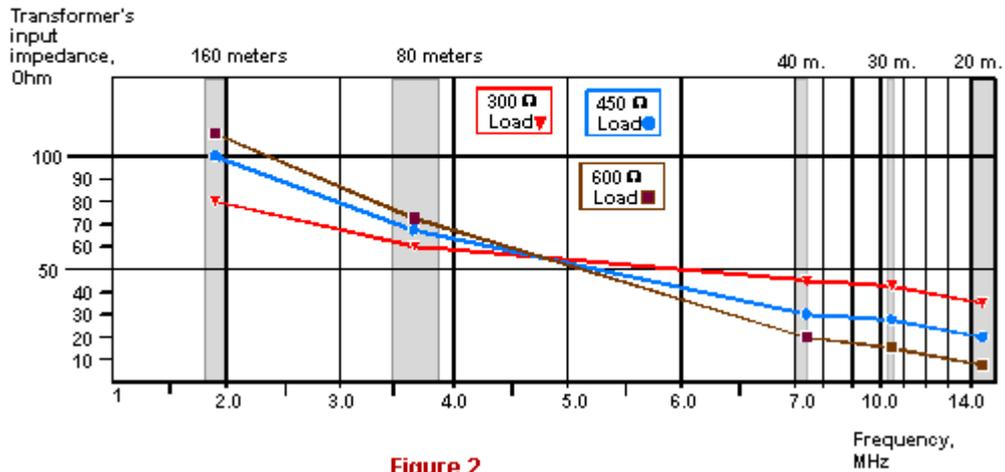

Figure 2
- An input resistance vs. frequency (**Fig. 2**),